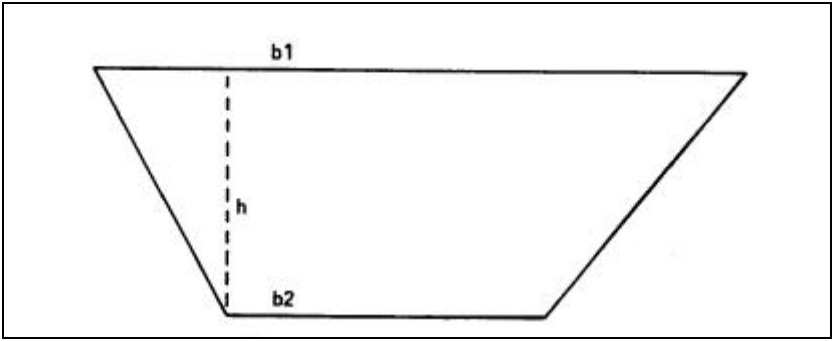

Fig 11-3-3 Trapezoid
4. **Trapezoids.** Trapezoids (Fig 11-3-3) are four-sided figures with one pair, but not both pairs of sides parallel. They have the following characteristics: